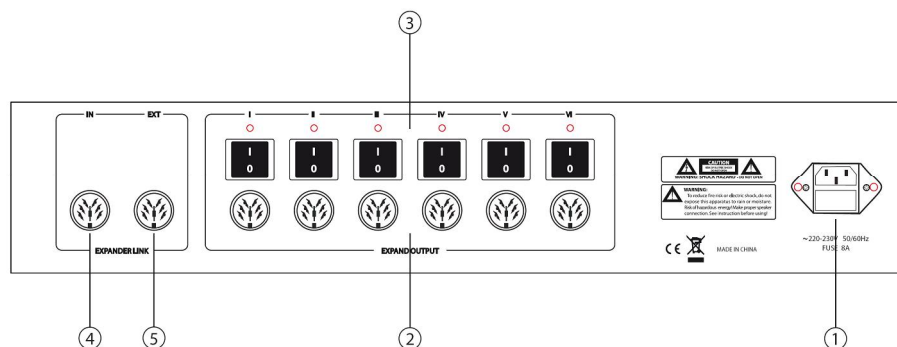

fig.8
Connect this output to the next expansion unit input using the provided cable (**fig. 8, ref. 4**). There is no limit to the number of expansion units that can be connected, yet the total number of manageable microphone stations must not exceed 254.